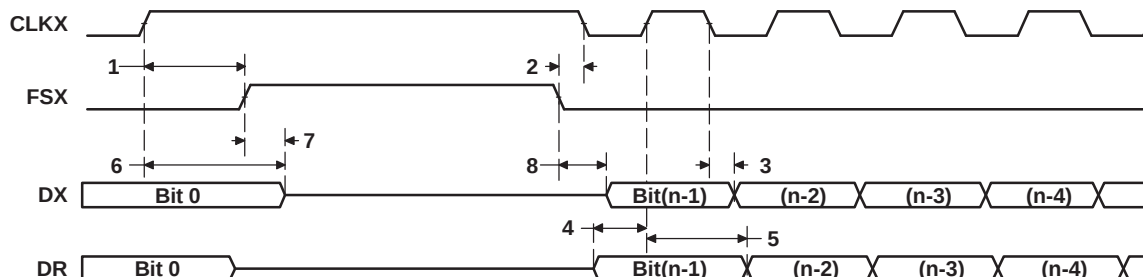

Figure 6-29. McBSP Timing as SPI Master or Slave: CLKSTP = 10b, CLKXP = 1
(see Figure 6-29)
(1) P = SYSCLK3 period in ns. For example, when running parts at 600 MHz, use P = 10ns.
(2) For all SPI Slave modes, the rate of the internal clock CLKG must be at least 8 times faster than that of the SPI data rate. User should program sample rate generator to achieve maximum CLKG by setting CLKSM = CLKGDV = 1.
Table 6-48. Switching Characteristics Over Recommended Operating Conditions for McBSP as SPI Master or Slave: CLKSTP = 10b, CLKXP = 1⁽¹⁾ (2) (see Figure 6-29)